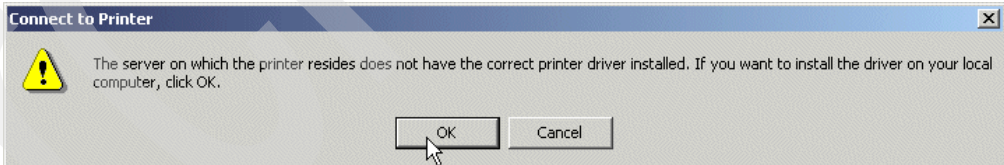

Figure 121. Windows driver requirement
- In case of first installation, the printer driver may not be available on the system as indicated by the message shown in Figure 121. In this case, you have to follow the instructions for your operating system.